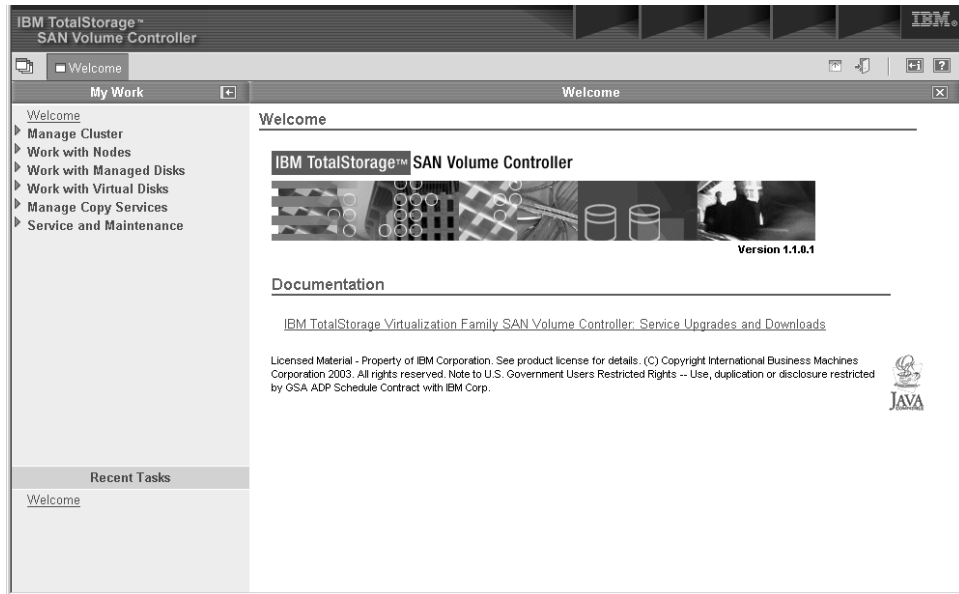

Figure 23. SAN Volume Controller Console Welcome panel
- Press the Go button and the Welcome panel is displayed in a new window. See Figure 23 on page 6.